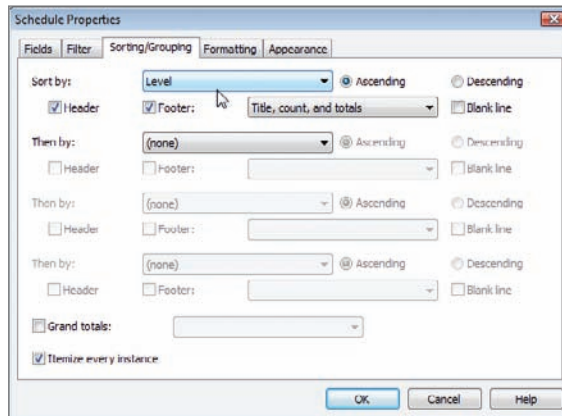

FIGURE 11.7 Sorting the schedule by level
7. Select Title, Count, And Totals from the Sort By drop-down list (see Figure 11.7).